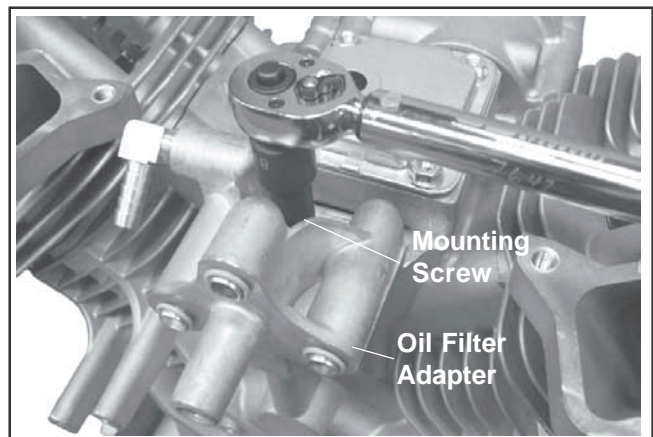

Figure 10-60. Torquing Oil Filter Adapter.
2. Install the oil filter adapter onto the crankcase. Install and torque the M8 capscrew to 24.4 N·m (216 in. lb.). See Figure 10-60.